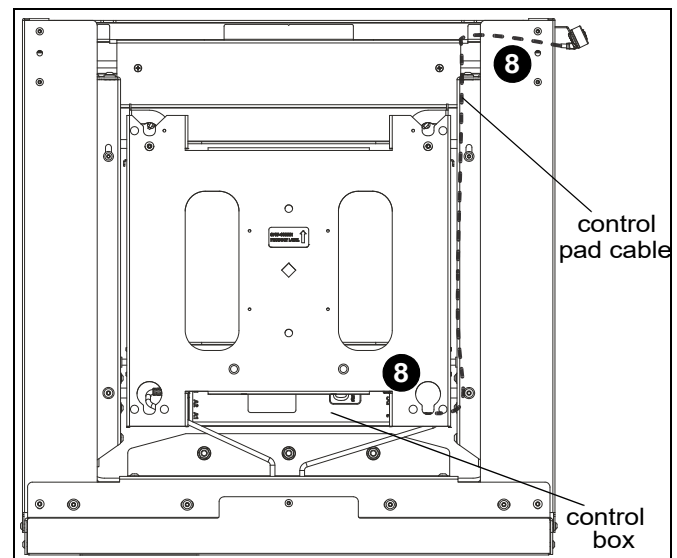

Figure 26
8. Route and connect control pad cable to control box into port A1 or A2. (See Figure 26)